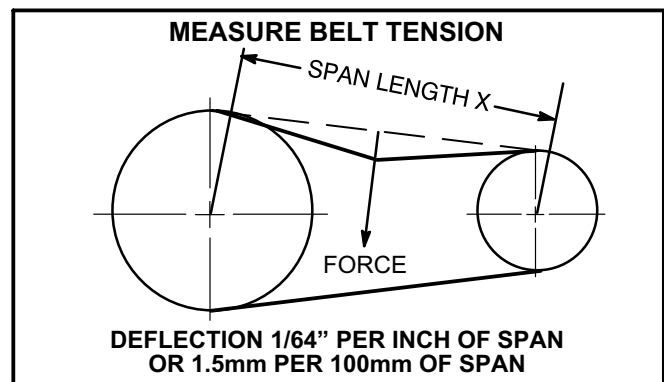

FIGURE 12
- 1- Measure span length X. See figure 12.
- 2- Apply perpendicular force to center of span (X) with enough pressure to deflect belt $1/64$ " for every inch of span length or 1.5mm per 100mm of span length.